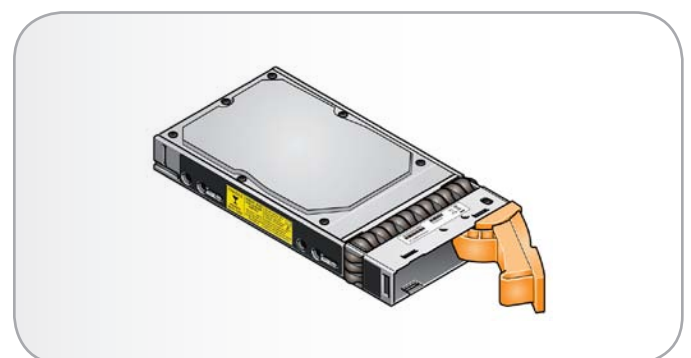

Fig. 36 - Drive Carrier Module with Handle Release - SAS Drive Shown
1. Release the carrier handle, by pressing the latch with your finger and rotating the handle towards the right (Fig. 36).